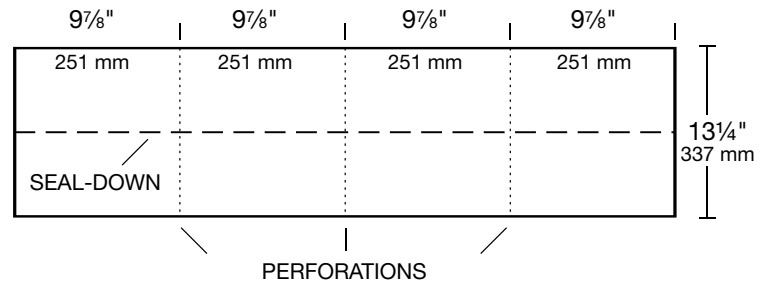

Figure 16 - 10" RidgeFlex[™] Hip and Ridge Shingle
Prepare for application by separating each hip and ridge shingle at the perforations: The 10" RidgeFlex[™] produces four (4) individual hip and ridge strips **(see Figure 16)**, and the 12"